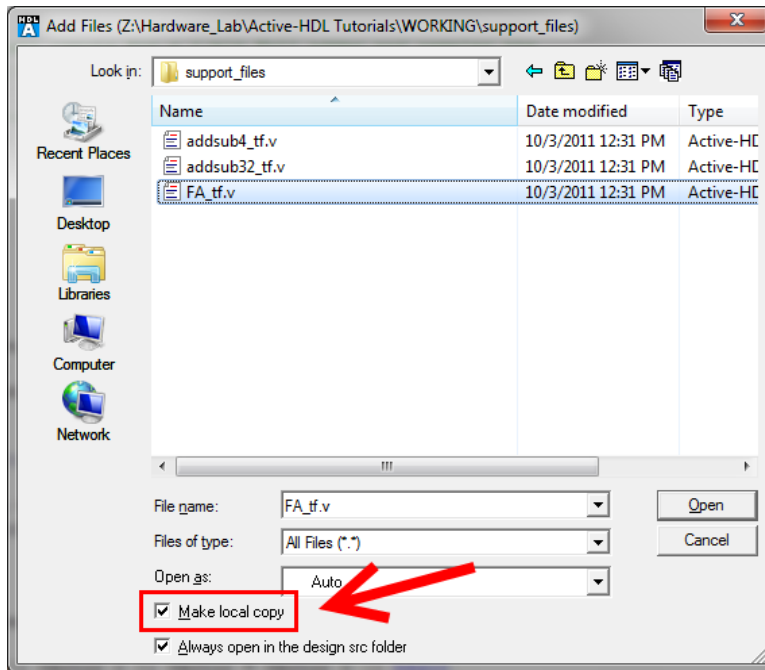

Figure 3
3. Navigate to the folder containing the file, check the “Make local copy” box (See Figure 3), and click the ‘Open’ button.